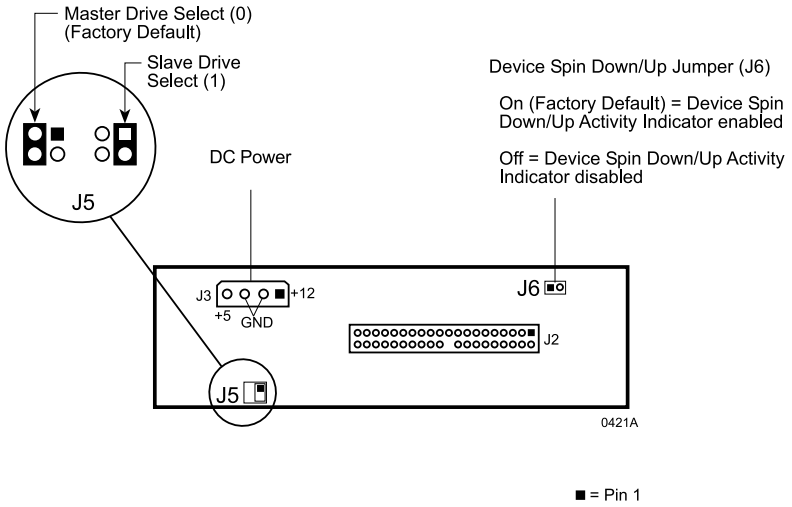

Figure 5: Receiving Frame Rear Panel
- **Device Spin Down/Up Timer** may be disabled by removing Jumper J6 P1-P2 (Figure 5). This feature allows the receiving frame unit number display to provide a visual indication of drive spin down/up activity.
(Figure 5)
6. Connect the I/O cable from the host adapter to the receiving frame. The Pin 1 indicator on the cable must be properly aligned. Refer to Figure 5 for the correct Pin 1 location.
7. Connect the power cable from the DC power supply in the computer or expansion chassis to the power connector on the DE100i-A100 receiving frame. Refer to Figure 5 for the DE100i-A100 receiving frame power connector location.